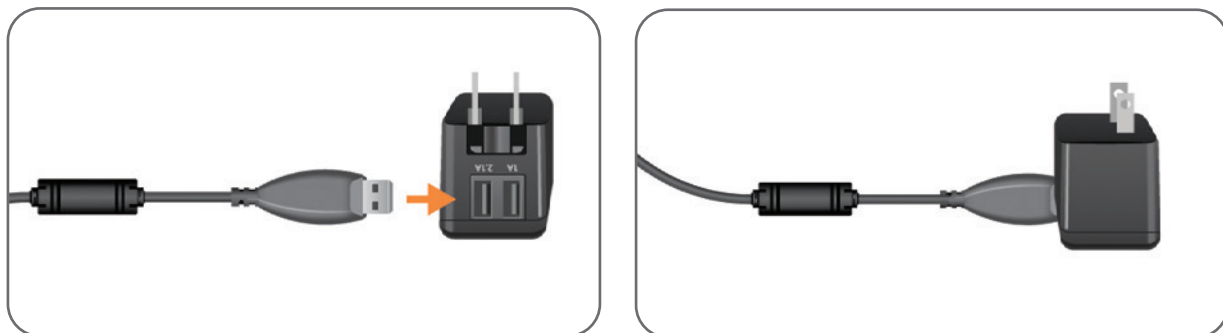

Figure 4-5: Inserting USB Charging Cable into AC Adapter
2. Insert the USB end on the magnetic charging cable into any of the two available USB ports on the AC adapter. If you are charging both the right and left Thigh Cuff, connect an additional USB charging cable to the AC adapter. See Figure 4-5.